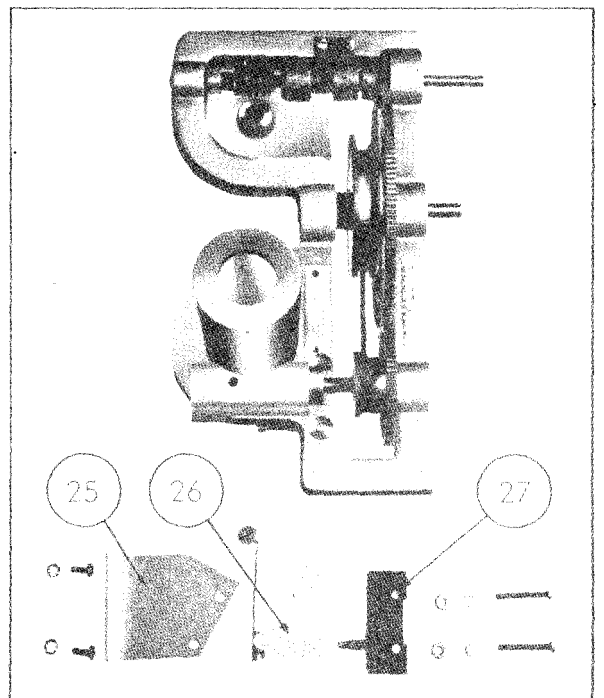

Figure 4-18. Assembly of Sensitive Switch S-102
Figures 4-18 and 4-19 show the assembly of the sensitive switch S-102 (27) with its auxiliary actuator arm (26) and mounting bracket (25). The tripping of the switch is adjusted at a later point in the assembly pro-